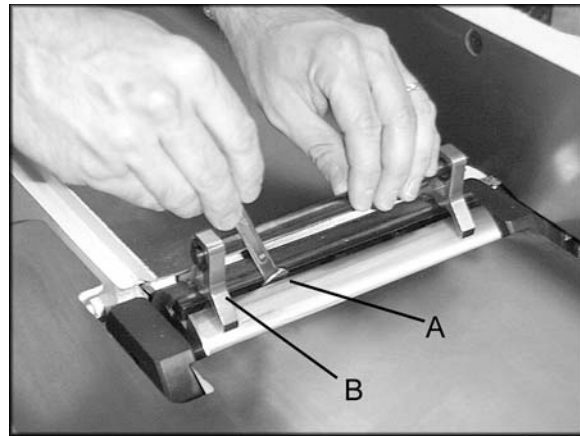

Figure 19
- If blade is higher or lower at one point, slightly loosen five screws (A, Fig. 19) by turning clockwise as viewed from the infeed table.
- Place the knife setting gauge (B, Fig. 19) on the cutterhead over the blade. Continue loosening the five screws until the springs push the knife up into contact with the gauge. Alternately tighten the five screws to hold each blade in place.